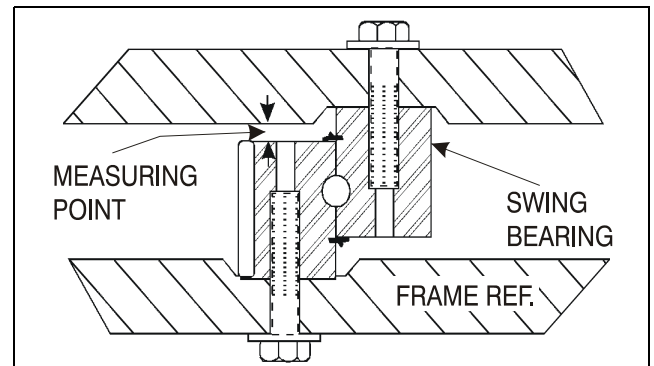

Figure 3-42. Swing Bearing Tolerance Measuring Point
1. From the underside of the machine, at rear center, with the main boom fully elevated and fully retracted, and tower boom stowed, as shown in Figure 3-39., Swing Bearing Tolerance Boom Placement (Sheet 1 of 2), using a magnetic base dial indicator, measure and record the distance between the swing bearing and turntable. See Figure 3-42., Swing Bearing Tolerance Measuring Point
2. At the same point, with the main boom at horizontal and fully extended, and the tower boom fully elevated and fully retracted as shown in Figure 3-40., Swing Bearing Tolerance Boom Placement (Sheet 2 of 2). Using a magnetic base dial indicator, measure and record the distance between the swing bearing and turntable. See Figure 3-42., Swing Bearing Tolerance Measuring Point